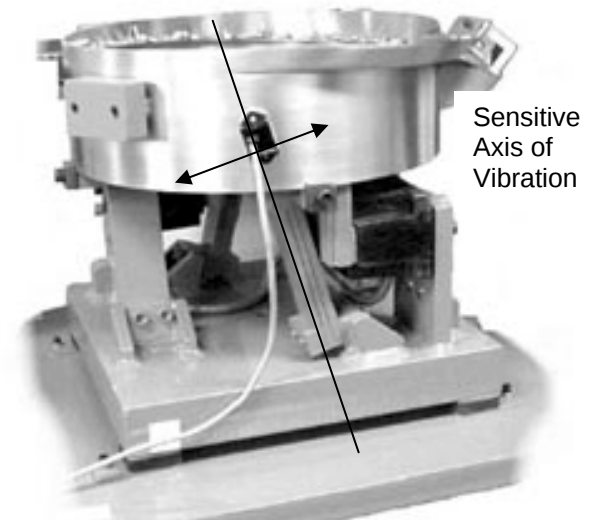

Fig. 2 The arrow shows the direction of vibration which is at a right angle to the spring pack.
A. **ORIENT THE SENSOR** so that its sensitive axis is in the same direction as the vibration of the feeder. The double-ended arrow in figure 1 shows the sensor's sensitive axis. Align the sensitive axis of the sensor in the same direction as the vibration (see figure 2). The sensor must be oriented correctly for proper operation.
Use a cable tie and an adhesive-backed mount to attach the sensor cable to the side of the drive base. See Figure 2. Clean the mounting area before applying the adhesive-backed mount.